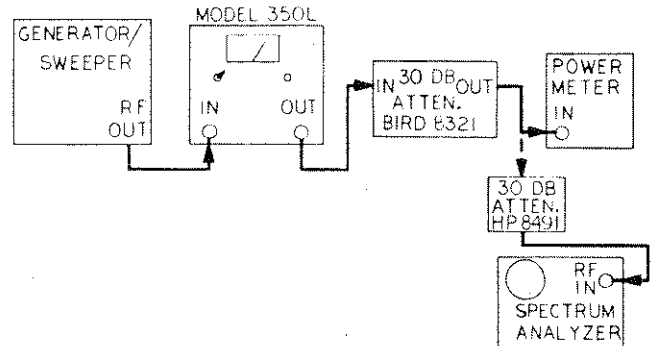

Figure 5-3. RF Output Distortion Test Set Up
- a. Set-up the test equipment as shown in figure 5-3.